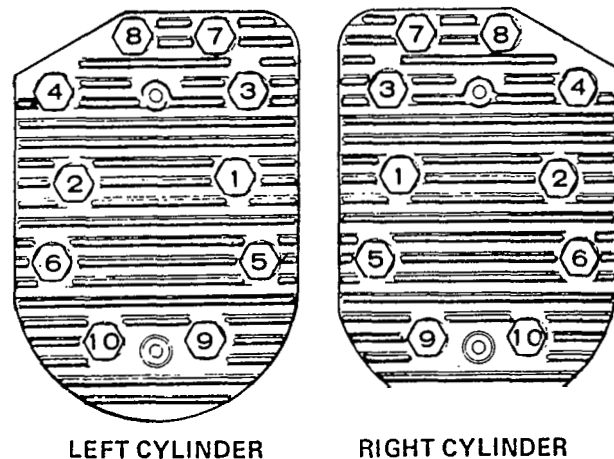

FIGURE 75. HEAD BOLT TIGHTENING SEQUENCE
6. Follow the head torque sequence shown in Figure 75.
After the head nuts have been tightened once, it will be necessary to tighten each head nut to the specified torque a second time. Follow the same sequence shown in Figure 75. Failure to retorquer could result in a blown head gasket.